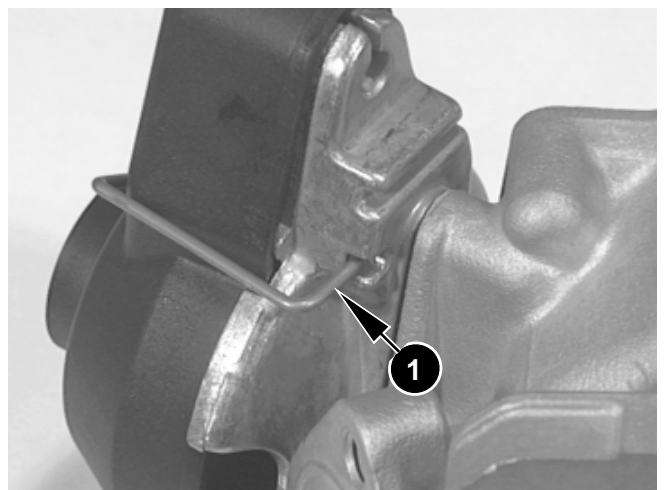

Figure 41
- ⇒ screw the bellows exhaust valve piston (10) onto the stud (11) until your feel the ending of the thread
- ⇒ pull the bellows (9) over the exhaust valve piston (10) until the lip of the bellows is inserted in the groove of the exhaust valve piston.
- ✓ Verify the exhaust valve for easy movement, improve if required by slight twisting of valve piston (10) and bellows (9).
- ⇒ Fit the hose spring (8) compression spring (4) and valve cover with adjustment screw (3). Secure with spring clip (1) on the cylinder (see fig 41).